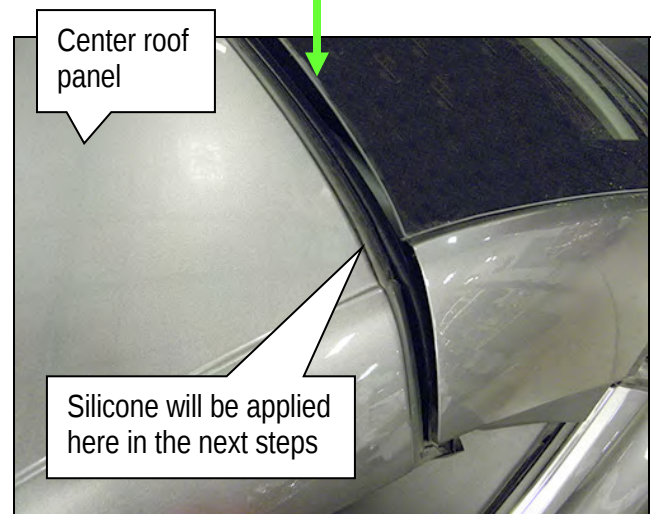

Figure 7
- Figure 7 shows necessary gap.